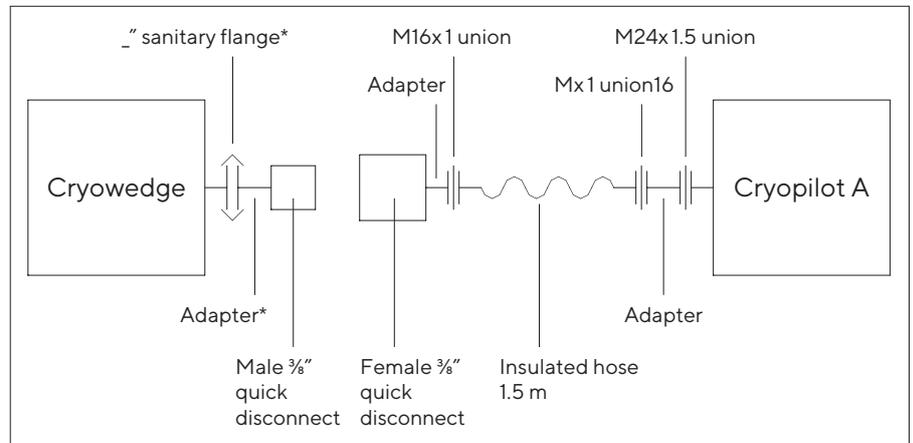

Fig. 6: Cryohose Installation for Cryowedge
- ▶ Connect the port labeled “Thermofluid out” on the Cryopilot A to the inlet port of the Cryowedge as shown in Figure 6. The inlet port on the Cryowedge is on the outer wall, which is equivalent to the position of the jacket on a Cryovessel.
- ▶ Connect the port labeled “Thermofluid in” on the Cryopilot A to the outlet port of the Cryowedge as shown in Figure 6. The outlet port on the Cryowedge is at the point, which is equivalent to the position of the core heat exchanger on a Cryovessel.